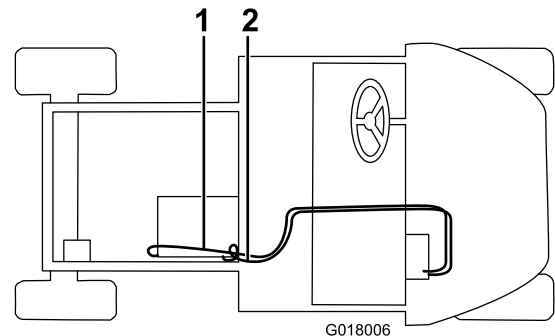

Figure 22
5. Connect the long hose to the heater valve with a hose clamp, and route it through the hole in the seatbase, the hole in the bed frame, and to the straight fitting with a hose clamp (Figure 22). Cut excess hose to fit.
6. Connect the shorter hose to the white fill tee with a hose clamp, route it through the r-clamp on the glove box, through the hole in the seatbase, and connect it to the tee fitting in the lower radiator hose with a hose clamp (Figure 22). Cut excess hose to fit.